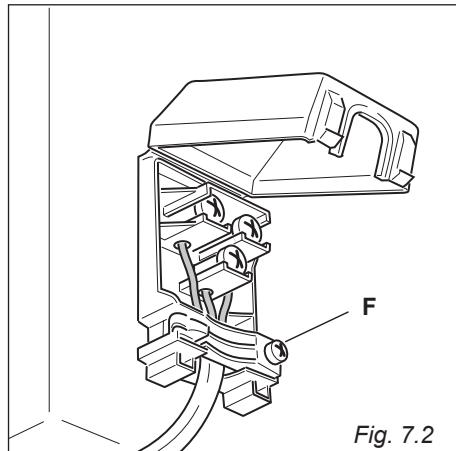

Fig. 7.2
- Open the cable gland by unscrewing screw "F" (fig. 7.2), unscrew the terminal screws and remove the cable.